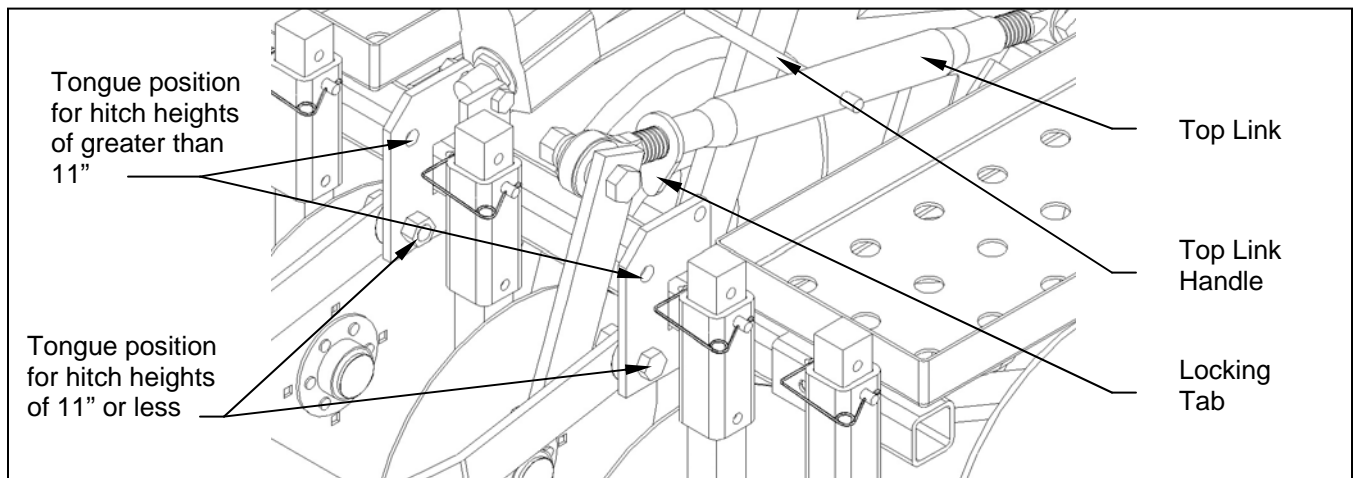

Figure 2. – Tongue Assembly and Adjustment
3. Measure the hitch height on your tow vehicle. For hitch heights of 11" or less use the lower tongue mounting holes. For hitch heights of greater than 11" use the upper tongue mounting holes. **(See Figure 2.)** The factory tongue setting is in the lower position. To reposition the tongue remove the provided 5/8" x 2" bolts, lock washers and nuts, align proper holes and reinstall and secure the bolts, lock washers and nuts.
2. This leveling can be done by adjusting the top link. Unlock the locking tab on the top link. Turning the handle on the top link counter-clockwise will raise the rear end of the tool and clock-wise will lower the rear end of the tool. After adjustments are made, lock the top link in place. **(See Figure 2.)**